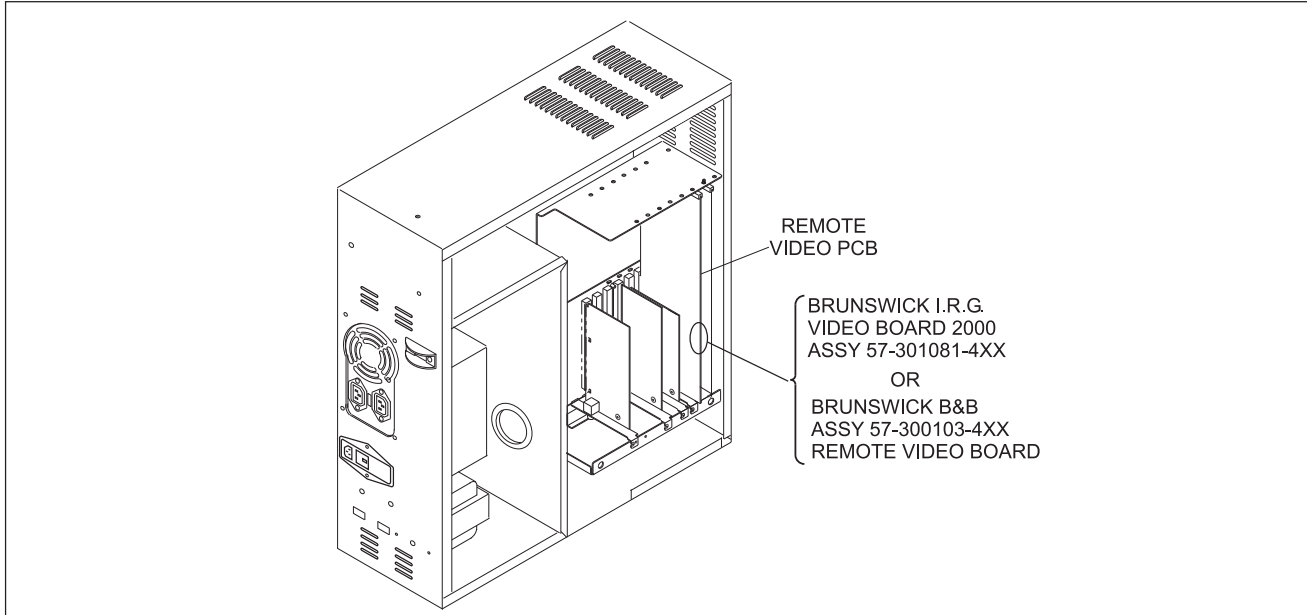

Figure 1. Lane Group Processor Remote Video Board Location
1. Verify the type of "Remote Video Board" the center has. There are two locations the "Remote Video Boards" can be located, in the Lane Group Processor (LGP) or the shaver console. Refer to *Figures 1 & 2*. The LGP is located on the curtain wall. If there is not an LGP then the "Remote Video Board" is located inside the shaver scoring console.
2. Refer to *Figures 1* and *2* for the location of the "Remote Video Board" part number.